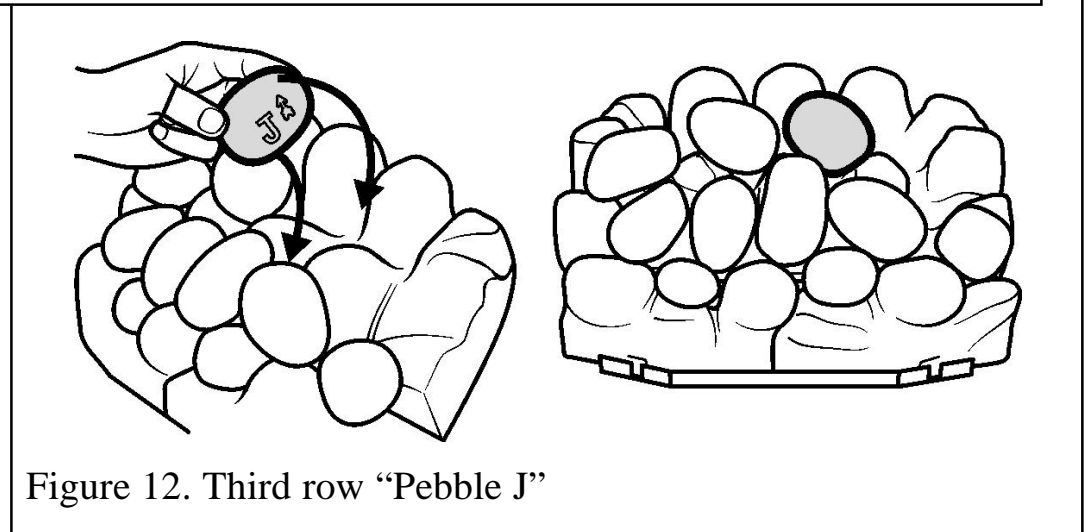

Figure 12. Third row "Pebble J"
14. Hold pebble 'J' upright with the arrow pointing to the top. Locate pebble 'J' as shown in figure 12